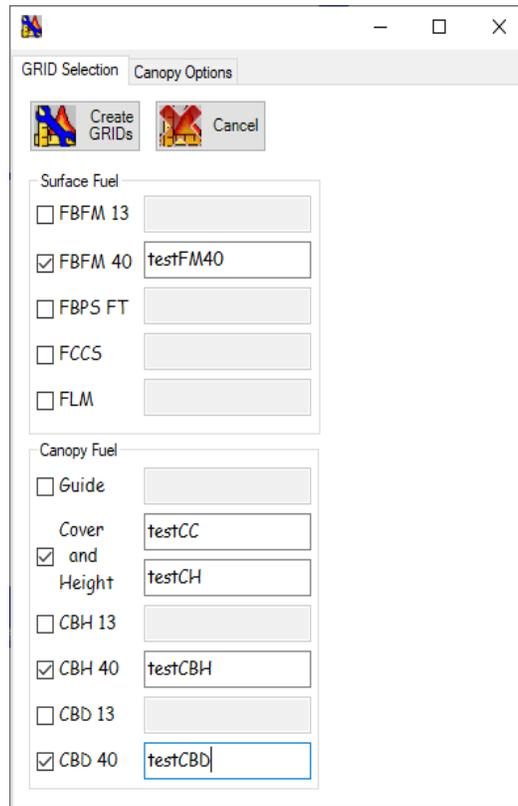

Figure 6-19. Complete the **GRID Selection** tab and click **Create GRIDs** when done.
The following dialog box will open with the **GRID Selection** tab visible as shown in Figure 6-19.
Note: After the boxes are selected with a check mark, the associated box for naming the layer is enabled (Figure 6-19).
- Select **FUEL GRIDS** on the drop-down menu to open a dialog box (Figure 6-19).